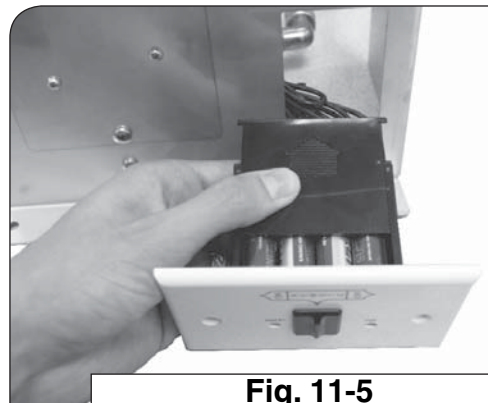

Fig. 11-5
To access the "AA" battery pack, unscrew and remove the two (2) retaining screws on the control system. Pull out the control system and then slide open the battery pack lid as shown in Fig. 11-5. Replace the old batteries with four (4) new "AA" batteries. Resecure the battery pack lid and return the control system into the control panel. Screw in the two (2) retaining screws.